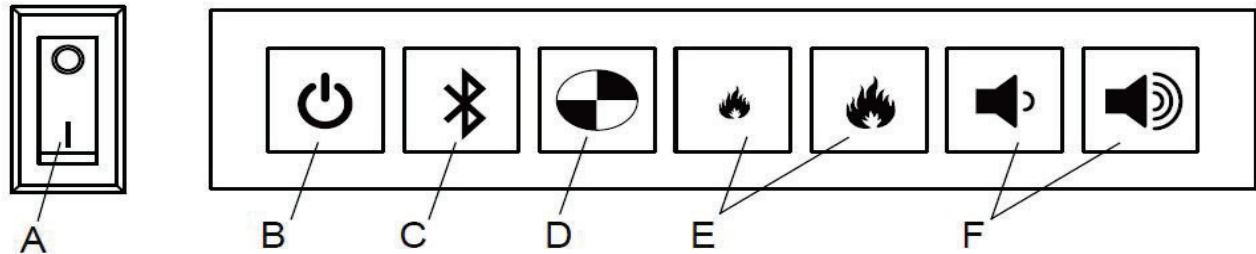
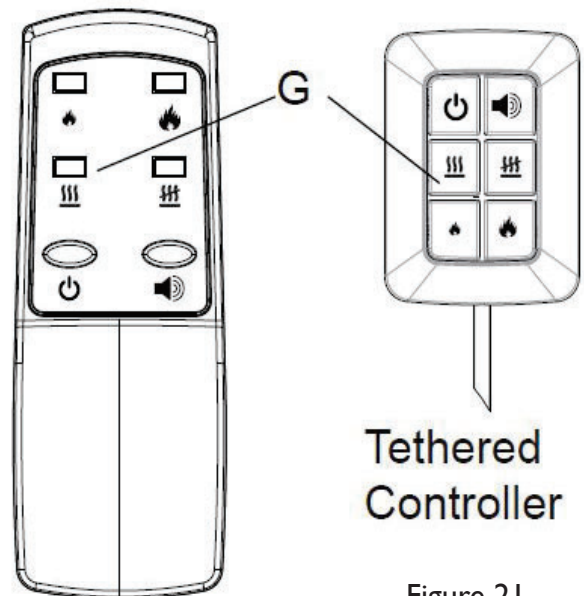

Figure 20
Figure 21
WARNING : This unit must be properly installed before it is used. There are three different control options available for the unit in addition to the WALL SWITCH that is required with every installation: manually using the Switch Board located under the media panel (see Figure 20), tethered controller (see Figure 21, must remain connected & tucked behind unit) and a remote control (see Figure 21).
2. Place the On/Off Switch (Figure 20) in the ON (I) position.
5. Within 20 seconds of pressing the button, press any button on the remote control (Figure 21).